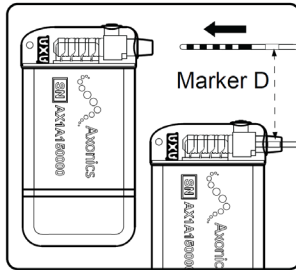

Figure 5: Insert Lead Fully into the Neurostimulator Connector Block.
- Insert the lead into the Neurostimulator connector block until fully seated and the lead cannot be inserted further. Marker D on the lead should be inside the Neurostimulator strain relief (**Figure 5**). The retention sleeve on the tined lead should be positioned under the Neurostimulator setscrew.
3. Use the torque wrench to loosen the setscrew in the Neurostimulator connector block by turning it counterclockwise (**Figure 5**).